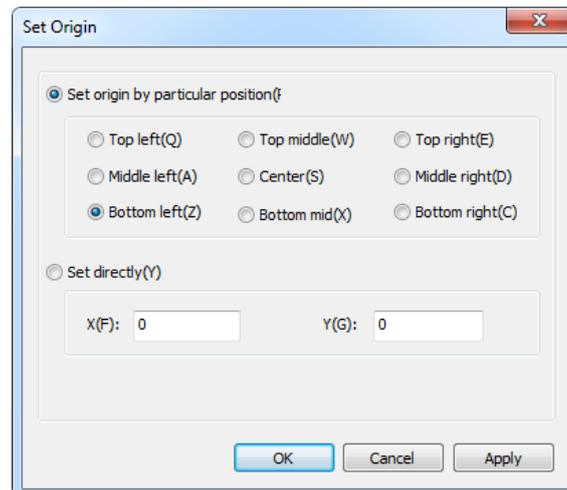

Fig. 3-10 Set Origin
- 1) Click **Set Origin** under menu **Draw**. Dialog box "Set Origin" as shown in Fig. 3-10 will pop out. You can set origin by particular positions or set the X/Y coordinate of the origin directly.